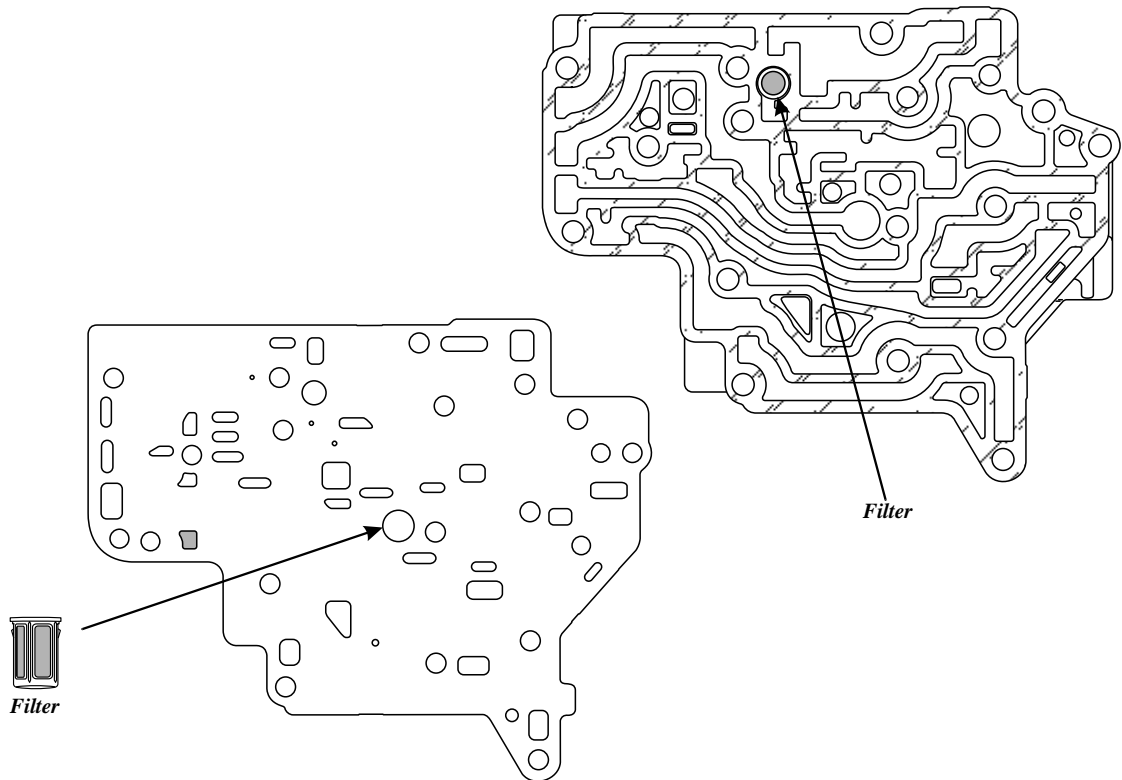

Figure 7
- The premain cover, spacer plate and gaskets were changed and the tube on the exterior was eliminated, as shown in Figure 7.